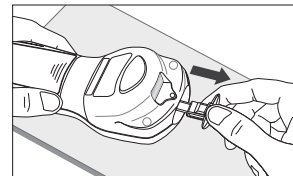

Figure 2
3. Once the screw is removed, place it aside. Use your hand to carefully slide the strip port module away from the meter. (Fig. 2)